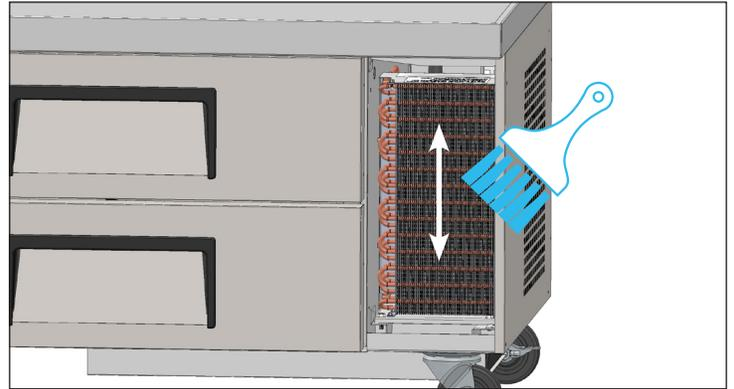

Fig. 2. Never brush across coil fins.
3. With a stiff bristle brush, carefully clean accumulated dirt from the front condenser coil fins. See fig. 2.